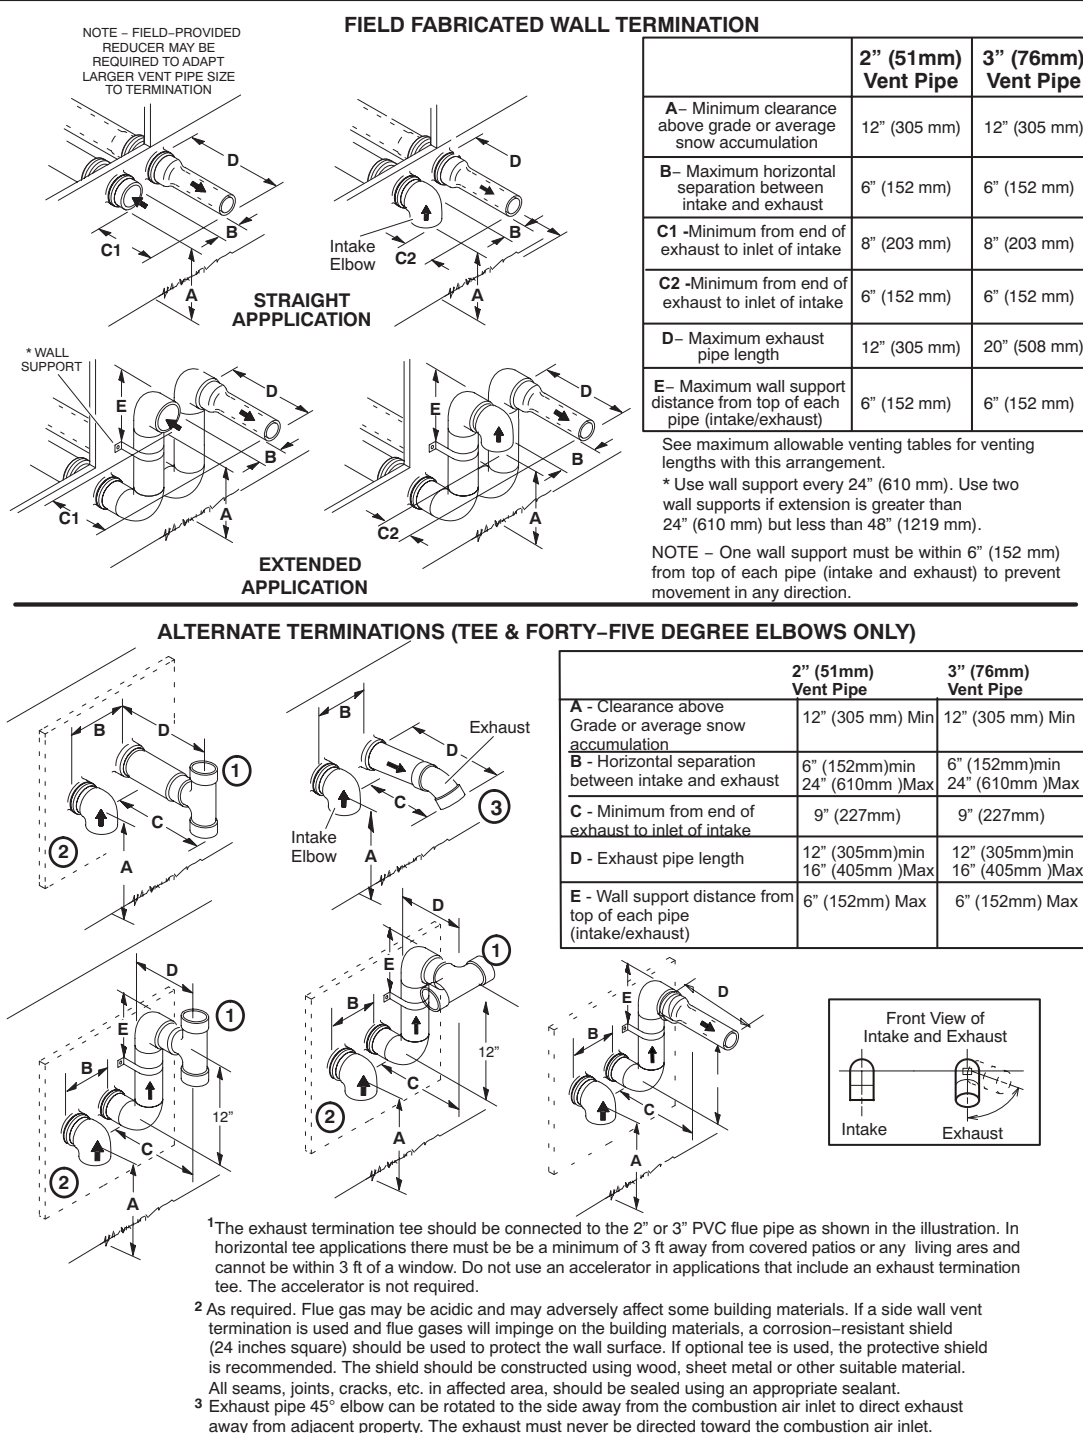

FIGURE 36
NOTE - Flue gas may be slightly acidic and may adversely affect some building materials. If any vent termination is used and the flue gasses may impinge on the building material, a corrosion-resistant shield (minimum 24 inches square) should be used to protect the wall surface. If the optional tee is used, the protective shield is recommended. The shield should be constructed using wood, plastic, sheet metal or other suitable material. All seams, joints, cracks, etc. in the affected area should be sealed using an appropriate sealant. See FIGURE 36.
- 5 - On field-supplied terminations for side wall exit, exhaust piping may extend a maximum of 12 inches (305mm) for 2" PVC and 20 inches (508mm) for 3" (76mm) PVC beyond the outside wall. Intake piping should be as short as possible. See FIGURE 36.
- 6 - On field supplied terminations, a minimum distance between the end of the exhaust pipe and the end of the intake pipe without a termination elbow is 8" and a minimum distance of 6" with a termination elbow. See FIGURE 36.
- 7 - If intake and exhaust piping must be run up a side wall to position above snow accumulation or other obstructions, piping must be supported. At least one bracket must be used within 6" from the top of the elbow and then every 24" (610mm) as shown in FIGURE 36, to prevent any movement in any direction. When exhaust and intake piping must be run up an outside